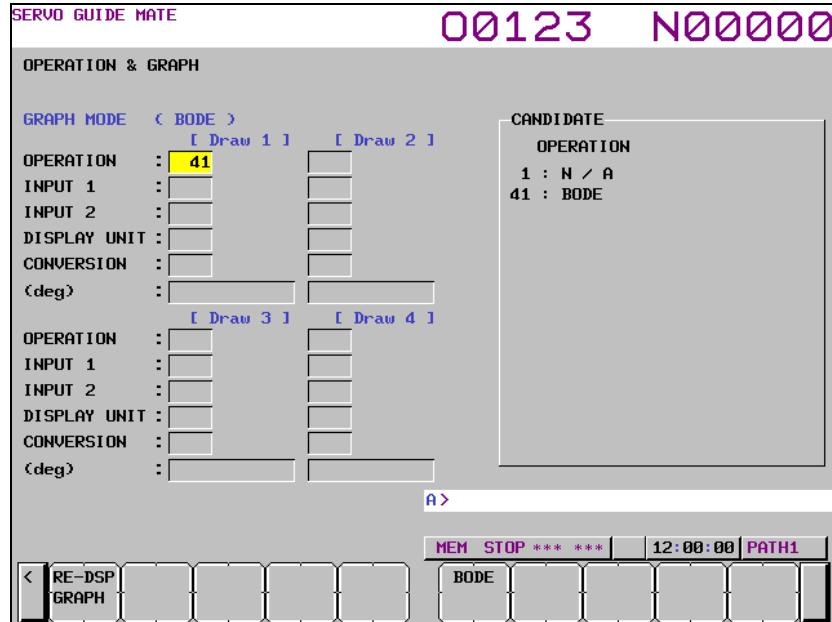

Fig. 1.9.1.5 (d)
- The operation and graph setting screen is displayed as shown Fig. 1.9.1.5 (d).